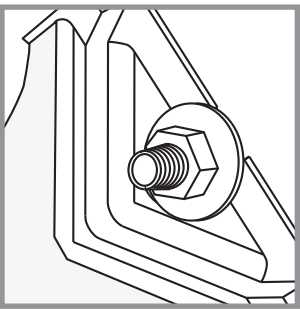

FIGURE 2A
4. Use four of the nuts and washers removed above to install the legs as illustrated in FIGURES 2a & 2b.